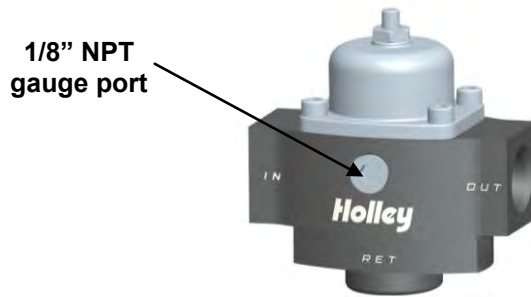

Figure 1
- The above return style regulators have one discharge (out) port, one inlet port, one return port and one gauge port. See Figure 1. (See chart above for fitting sizes).
- Connect the fuel line from the "out" side of the pump to the "in" side of the regulator. (Figure 1) All fuel line connections must be leakproof.